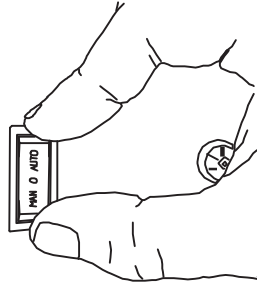

Figure 34 - Installing Rocker Switch
18. Push the rocker switch into the control panel (see Figure 34).